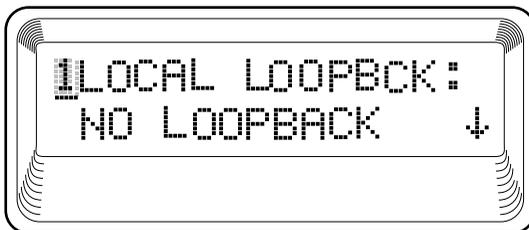

Figure 7-2. Local Loopback Screen
The network tests are run on the network interface (NI). Three different test configurations can be selected to determine the type of loopback and the pattern to run. Test results are displayed in the LCD window. See Figure 7-2.